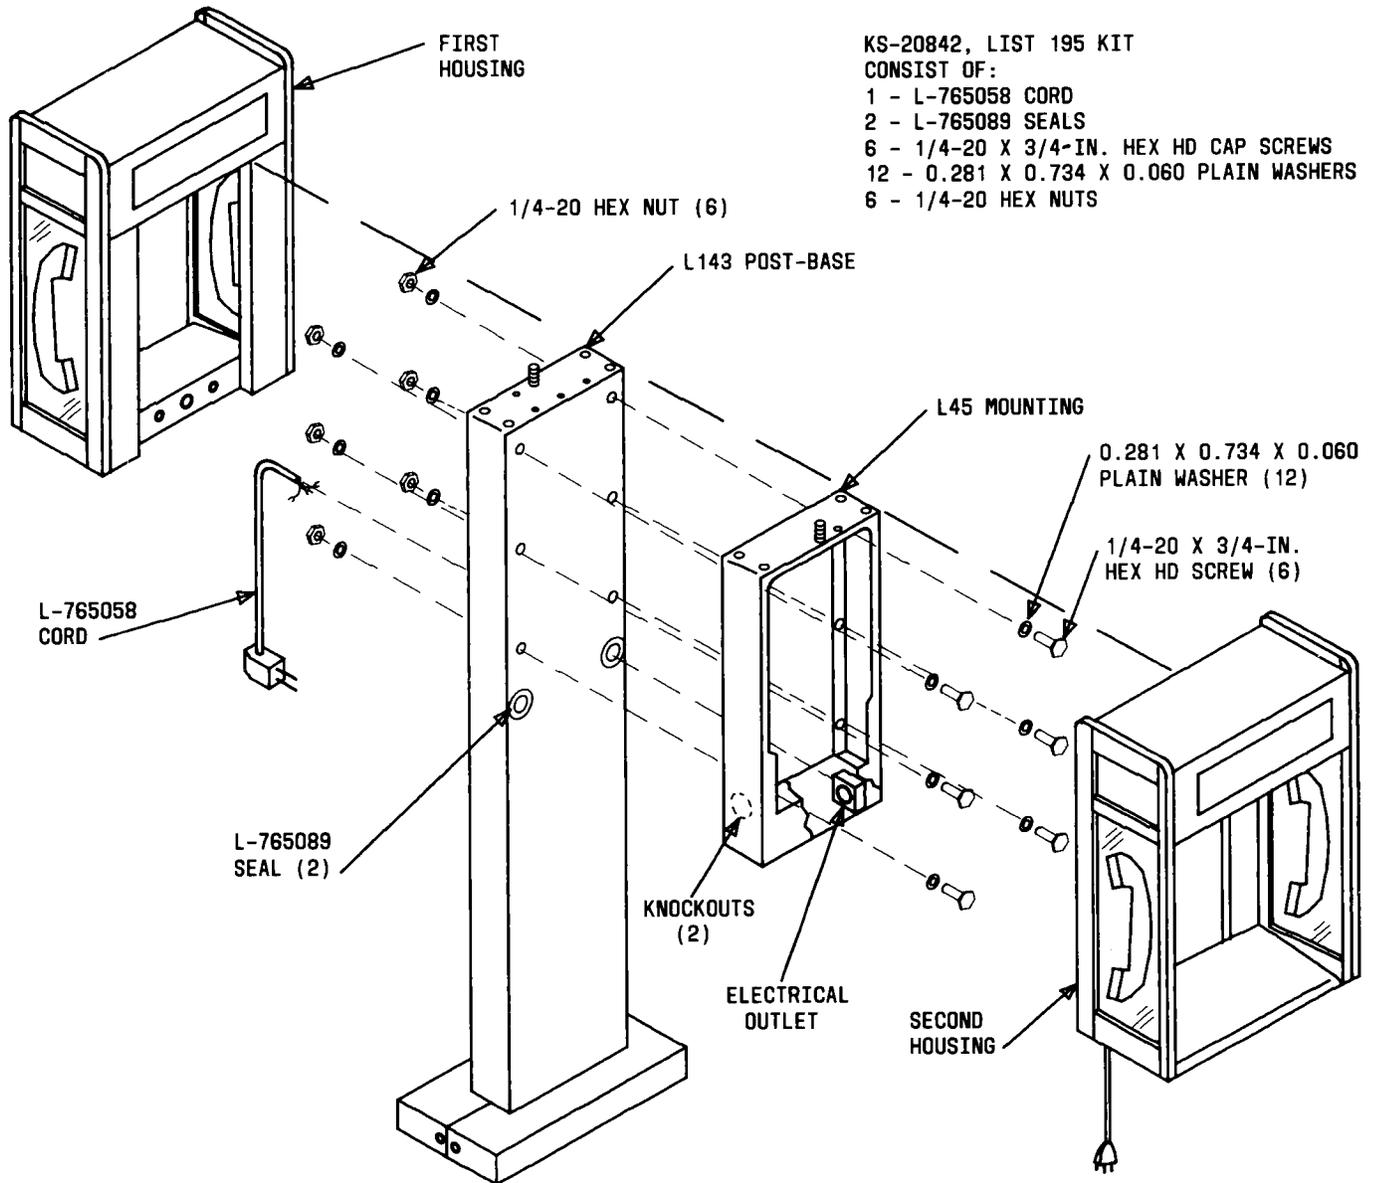

Fig. 30—Installation of Two List 33 or 35A Housings Back-to-Back on a List 143 Post-Base Using List 195 Mounting Kit
3.29 List 33 Housing Back-To-Back on List 43 Post or List 143, 144 Post-Base Using List 195 Mounting Kit (Fig. 30).
3.33 List 35A Housing Assemblies Back-To-Back on a List 143 Post-Base Using List 195 Mounting Kit (Fig. 30).